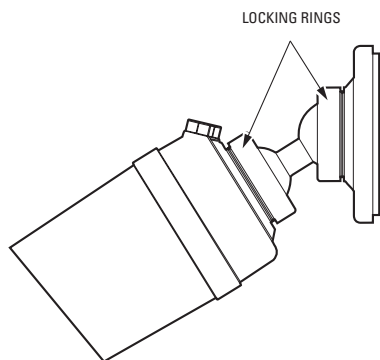

Figure 7. Adjusting Enclosure Position
2. Release one or both locking rings, and swivel the enclosure until the angle of the camera is correct (refer to Figure 7).